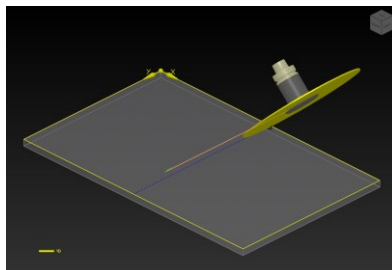

Figure 1
- **Angle AZ:** it specify the blade tilt (positive or negative) on the zero face of the piece (Figure 1).